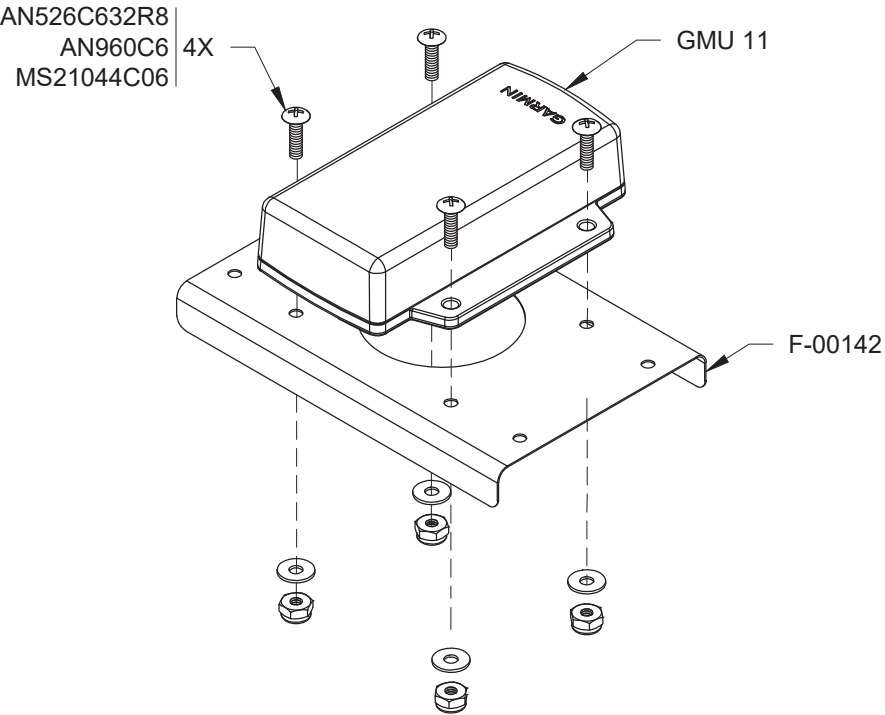

FIGURE 1: GMU 11 INSTALLATION
Step 1: Install the GMU 11 to the F-00142 GMU 11 Attach Plate as shown in Figure 1.